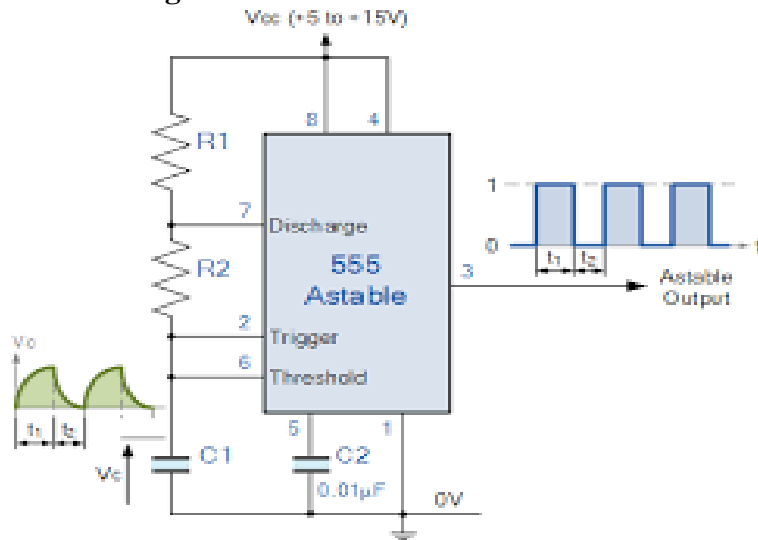

Figure 15.2 Circuit diagram of Astable multivibrator using IC 555
1. Test and mount the IC 555 in breadboard and make the connections as shown in fig. 15.2.